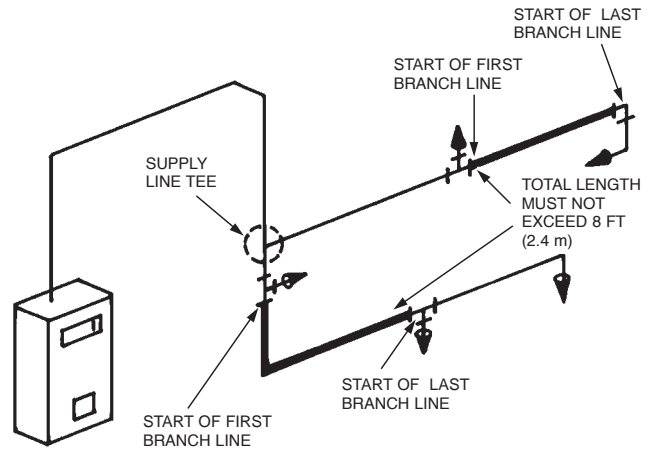

FIGURE 4-132
4. The pipe length between the start of the first branch line and the start of the last branch line must not exceed 8 ft (2.4 m). When the supply line is split, the **combined length** of both legs of the supply line (start of first branch line to start of last branch line) must not exceed 8 ft (2.4 m). See Figure 4-132.